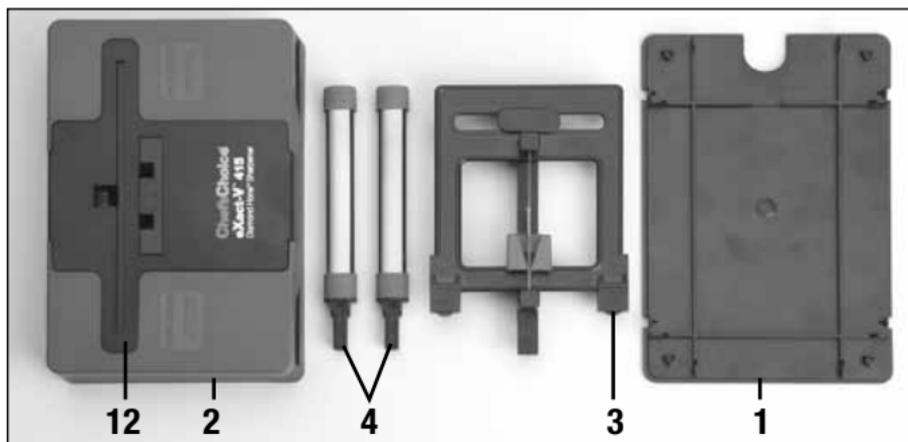

Figure 3.
The sharpening components of the eXact-V® are conveniently stored within the supporting base which acts as their carrying case (Figure 2) which is sized to fit easily into a drawer, in your glove compartment, camping gear, or with your fishing tackle. The bottom cover (Figure 2) of the supporting base is easily removed by inserting a finger under the opening (2) at the end of the bottom cover (1) and removing it as shown. Then the knife guiding assembly (3) can be removed from the carrying case by pulling it upward carefully until it is released from its retaining clips. Then the two sharpening rods (4) can be removed similarly by pulling upward by their small ends (socket ends) until they release from their retaining clips. Figure 3 shows the supporting base (2), the two sharpening rods (4), the knife guiding mechanism (3), and the bottom cover (1) after removal of these components.
The spring assembly will then be on the same side of the post adjacent to the two abrasive rods. As the post is inserted the wheels along the bottom of the sliding guide frame (3) must be aligned with and be inserted into the “grooved track” (12) across the top of the supporting base (Fig.3). Check to make certain that after assembly the sliding frame moves freely left or right and returns to center by pressing a finger against either vertical guide surface.